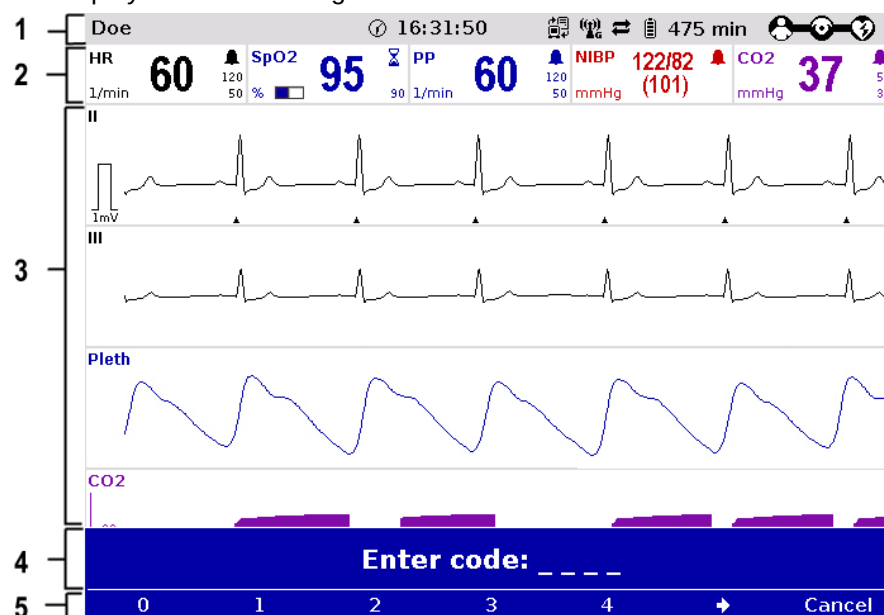

Fig. 4-2 Monitoring unit, example of basic structure of the display pages
Parameter area The measured parameters and the configured alarm limits are displayed in the parameter area (Fig. 4-2, item 2) of the display.
Curve and display area Up to six curves of measured values of monitoring functions can be displayed in the curve and display area (Fig. 4-2, item 3) of the display.
Message line In the message line (Fig. 4-2, item 4) of the screen, additional interactions with the user interface are displayed, e.g. to enter the PIN code for the OPERATOR user level or to enter patient data).
Softkey line The current function assignment of the softkeys is displayed in the softkey line (Fig. 4-2, item 5).